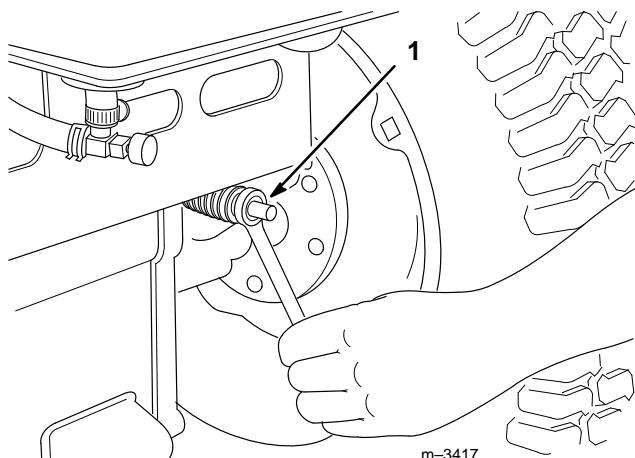

Figure 39
The brake adjustment is at the rear of the tractor (Fig. 39). If the parking brake does not hold securely, an adjustment is required.
- Turn the brake adjustment nut (Fig. 39) until there is 2" (51 mm) of free travel.